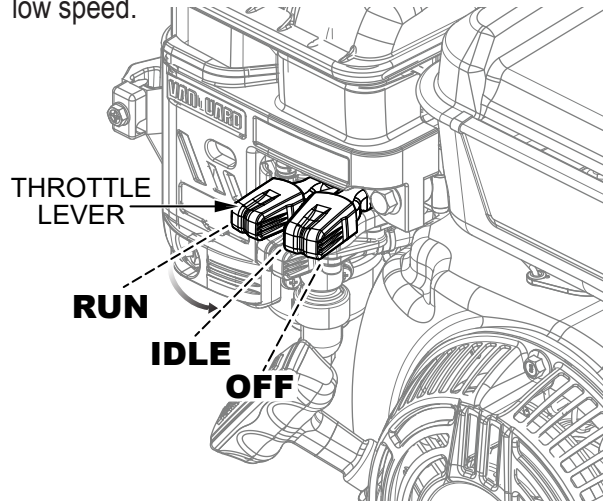

Figure 13. Throttle Lever (Idle)
- Place the **engine throttle lever** in the **IDLE** position (Figure 13), and run the engine for three minutes at low speed.